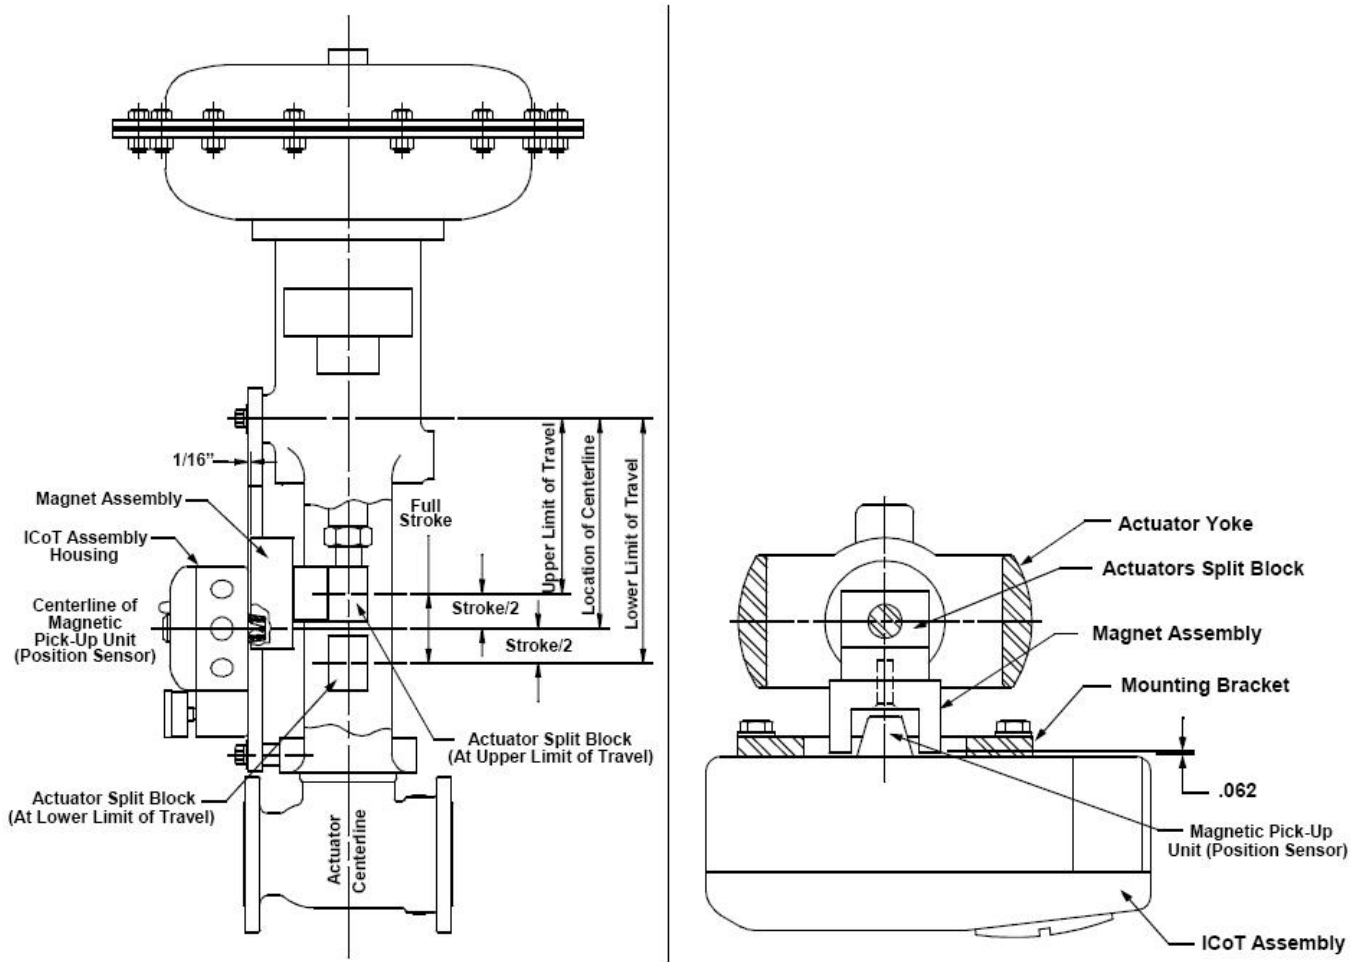

Figure 3-5
Step 3. Mount the positioner to the mounting bracket. The positioner should be mounted so the magnetic pick-up unit of the positioner is centered between the limits of the magnetic assembly's stroke. After mounting the positioner, the magnet assembly should be within 1/8" from the back of the positioner (1/16" is ideal), (See Figure 3-5)